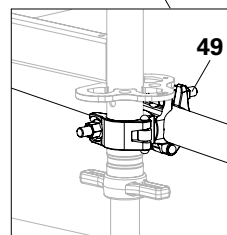

Fig. D7.06a
2. Fit an inner tube or scaffold tube onto the outer tube of the base frame (**15**) using a swivel coupling (**49**). Tighten the swivel coupling (Fig. D7.06a)